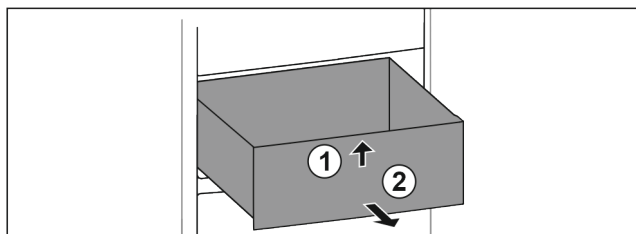

Fig. 24
- ▶ Lift drawer at the front. Fig. 24 (1)
- ▶ Remove drawer to the front. Fig. 24 (2)